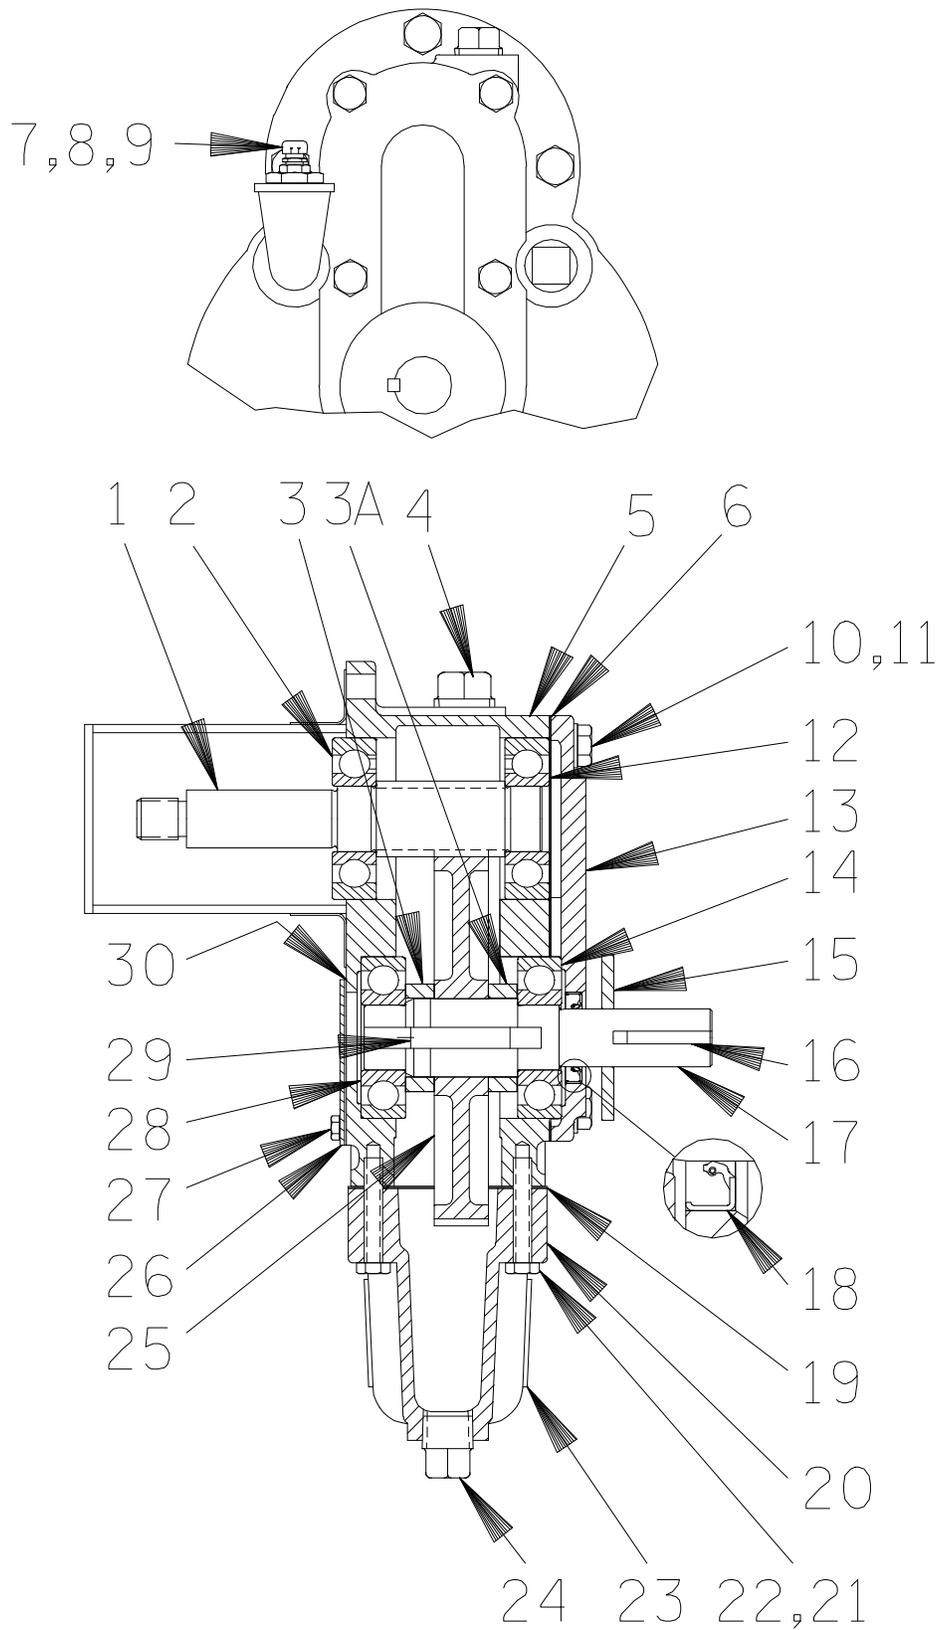
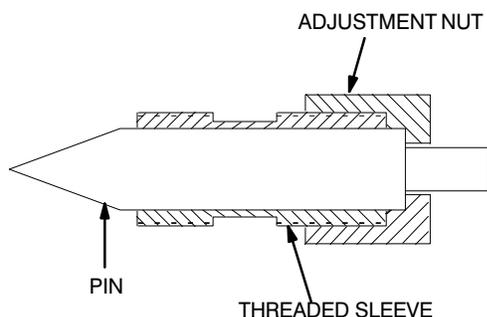

Figure 2. 44161-019 Gear Box Assembly
Figure 3. 48781-002 Gear Jam Tool
To remove the impeller, see Figure 2 and remove one of the pipe plugs (4) located in the gearbox. Screw the threaded sleeve on the gear jam tool (P/N 48781-002, Figure 3) into the pipe plug hole. Slide the pin through the sleeve until the beveled end of the pin engages the teeth of the drive gear (25). Screw the adjustment nut onto the sleeve until the pin firmly engages the teeth of the drive gear and jams rotation. Check to ensure that the pinion shaft (1) will not turn.
See Figure 2 and remove the drive shaft key (16) and slinger ring (15) from the drive shaft (17). Remove the lower most drain plug (24) and drain the gearbox lubricant. Clean and reinstall the drain plug. Disengage the hardware (10 and 11) and remove the bearing cover (13), oil seal (18), and gasket (6) from the gearbox housing (5).
*See Figure 1 and remove the hardware (7 and 8) securing the pump casing (1) to the gearbox. Use a 1-inch diameter brass rod (or wooden dowel) and a hammer to tap the shaft and assembled pump parts from the gearbox. **Be careful** not to damage the outboard pinion shaft bearing (12, Figure 2)*
If the pump casing, oil seal (4) or gearbox assembly (9) requires replacement, the casing must be separated from the gearbox housing (5, Figure 2).